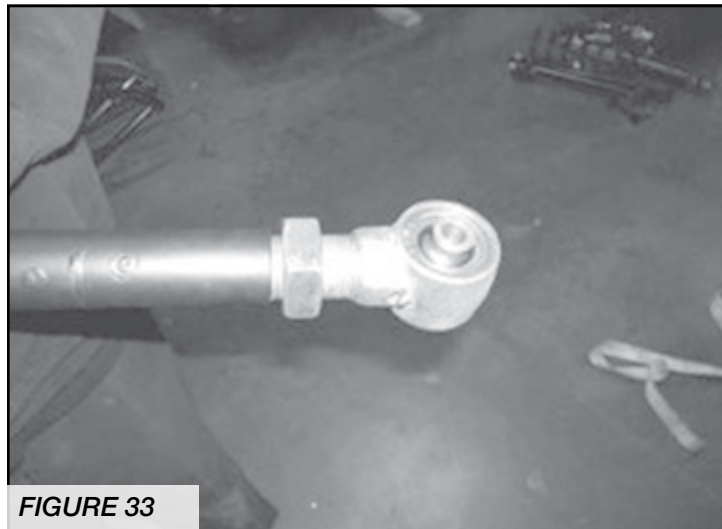

FIGURE 33
21. Locate four of FT50123 Large Pivot Joints and thread one of the supplied large jam nuts onto each of the pivot joints. Note- when installing the jam nut onto the pivot end, make sure the flatter side of the jam nut is facing the link arm. You will need to thread the jam nut onto the end so there is 3/8" of thread showing above the jam nut on the UPPER joint and 1/2" of thread showing above the jam nut for the LOWER joint. THESE MEASUREMENTS ARE JUST A STARTING POINT. YOU MAY HAVE TO ADJUST THEM BASED ON YOUR JEEP. BOTH FRONT LINKS MUST BE ADJUSTED EQUALLY FROM SIDE TO SIDE FOR PROPER VEHICLE ALIGNMENT. Locate the new Fabtech front lower link arms FT50144 and install one of the previously assembled large pivot joints into each end of the link. **SEE FIGURE 33.**